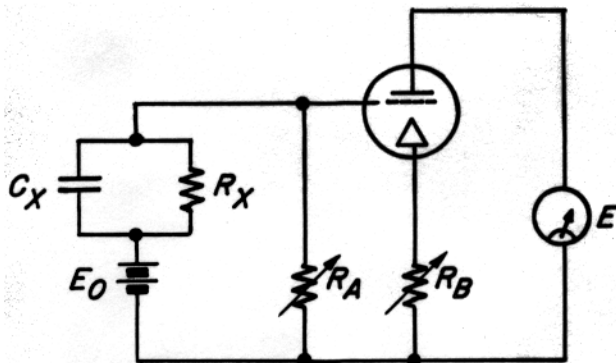

Figure 7. Capacitor Leakage - Resistance Measurement.
Consider for example, the circuit shown in Figure 7. The capacitor C_x will have absorbed about two thirds of its final charge from E_0 in a time determined by the $R_A C_x$ product if there is no appreciable dielectric polarization. This is true of air capacitors. For most dielectrics, the time necessary for the capacitor to absorb the charge is much greater than the $R_A C_x$ product because of polarization. Polarization can be due to dipoles or to internal interfaces of dissimilar dielectrics. The reorientation of dipoles, especially large-molecule dipoles, takes time; it also takes time for free electrons and especially for the slower ions to accumulate at the dielectric interfaces. Consequently, when a potential is applied to a capacitor, the time required for a complete charge can be a matter of seconds, hours, or even days, depending on the dielectric and on the leakage.
4.6.2 When measuring the leakage resistance of a capacitor (see Figure 7), start with the OHMS MULTIPLIER switch (R_A) at zero. With the function switch at either 30 MV (with an external d-c supply) or 90 OHMS (internal supply), advance the OHMS MULTIPLIER switch to obtain a meter reading. Monitor the meter reading until it has decreased to a steady value, that is, until the decreasing charge current is small compared with the leakage current. While the charging current is still appreciable, a change in the OHMS MULTIPLIER setting will for a short time (about $R_A C_x$ seconds) upset the rate at which the meter reading approaches an equilibrium value.